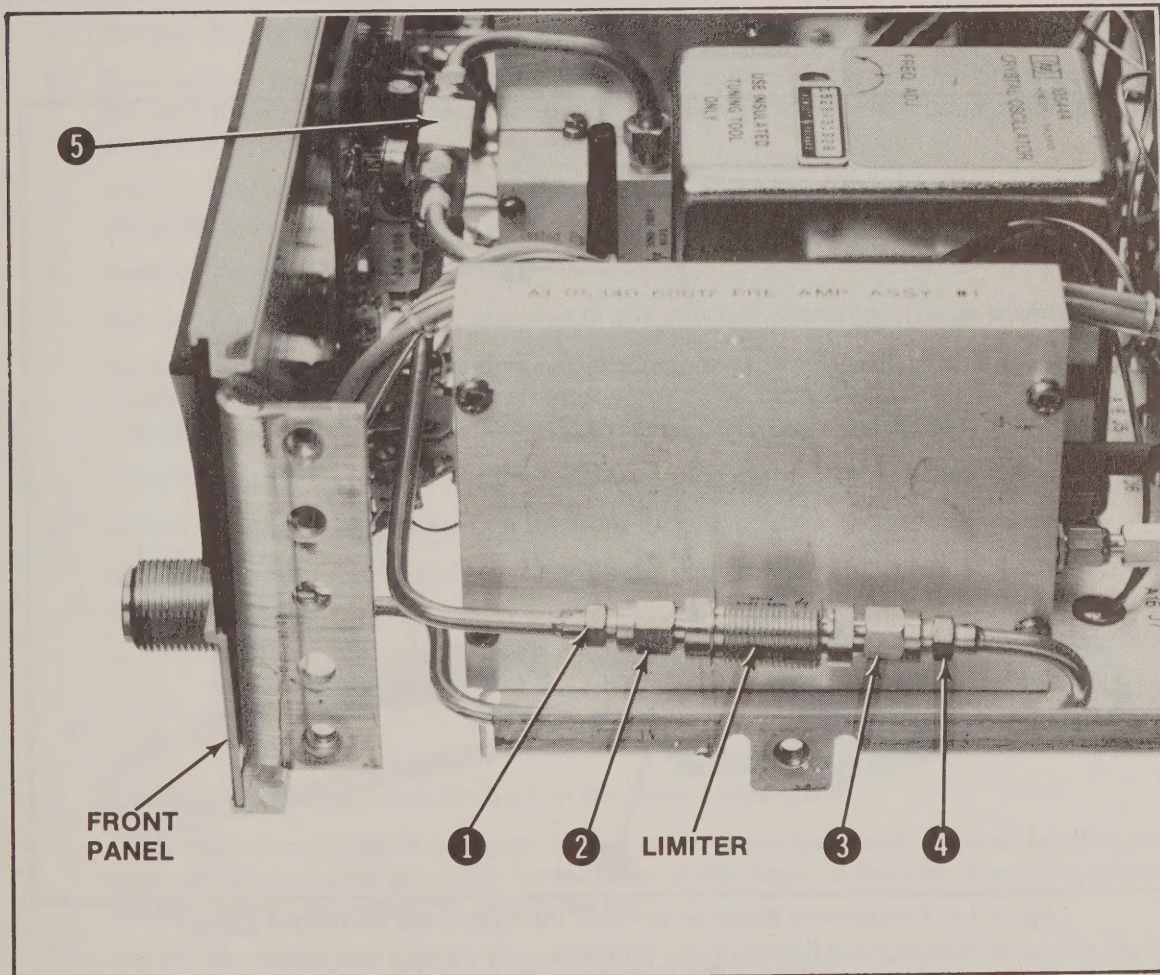
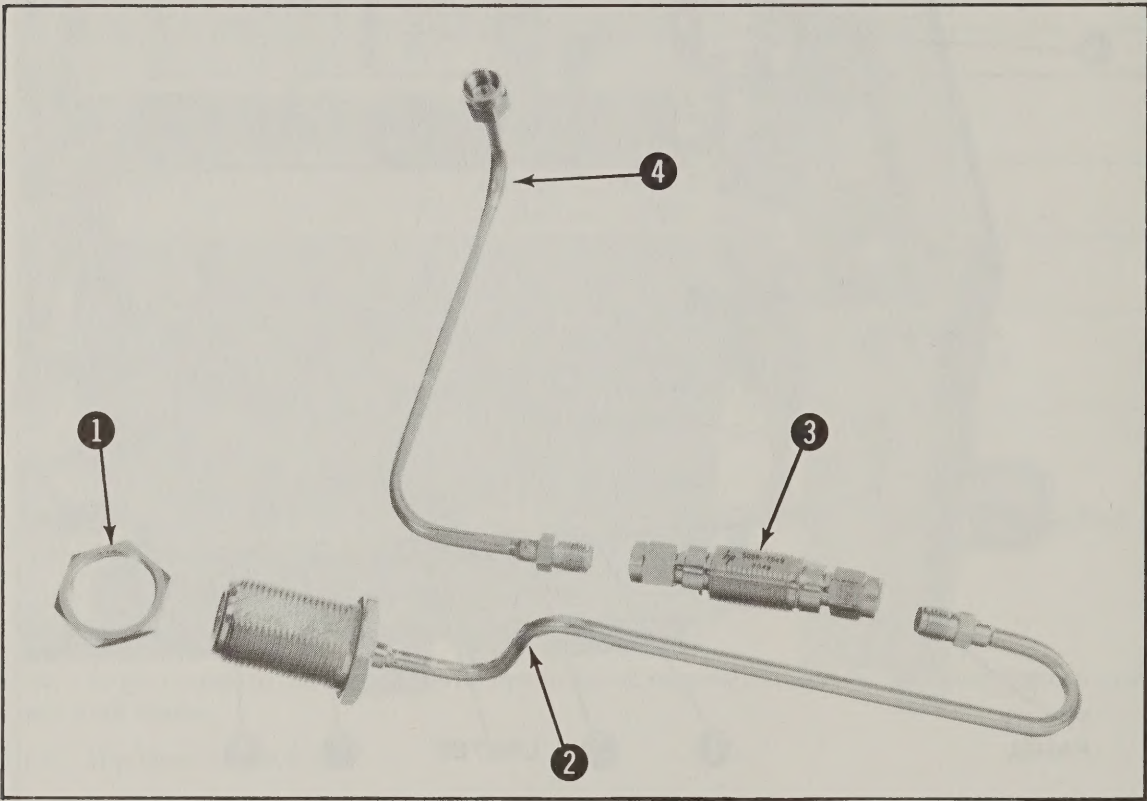

Figure 1-1. Option 006 Installation (Right Side View)
Figure 1-2. Components Required to Install the Option 006 Microwave Limiter
When removing or installing the limiter refer to *Figure 1-1*.
1-16. Figure 1-2 shows the components required to install the Option 006 Microwave Limiter in the 5340A Microwave Counter.
Table 1-2. Part Descriptions for Figure 1-2.
1-23. Figure 1-2 illustrates how the various parts are interconnected and Figure 1-1 shows a completed installation.
- c. Connect the Microwave Limiter to the SMA end of the coax. Tighten with a 1/4-inch wrench held stationary at point ④, Figure 1-1, and a 5/16-inch wrench at point ③, Figure 1-1.
- d. Connect the remaining coax (item 4, Figure 1-2) to the 5088-7003 power splitter point ⑤, Figure 1-1, finger tight.
- e. Connect the Microwave Limiter at point ①. Tighten with a 1/4-inch wrench at point ①, Figure 1-1 (held stationary), and a 5/16-inch wrench at point ②, Figure 1-1.
- f. Tighten the SMA connector at point ⑤, Figure 1-1, with a 5/16-inch wrench. Hold the power splitter with your hand when tightening. The housing is easily damaged by wrenches or pliers.